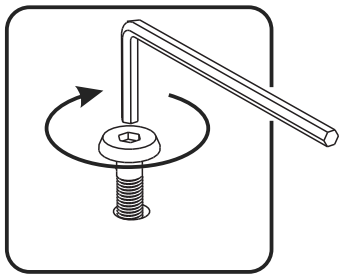

Figure 1
Attach Side (C) to Back (A) with Head Cap Bolts (large), tightening bolts only halfway. (See Figure 1)